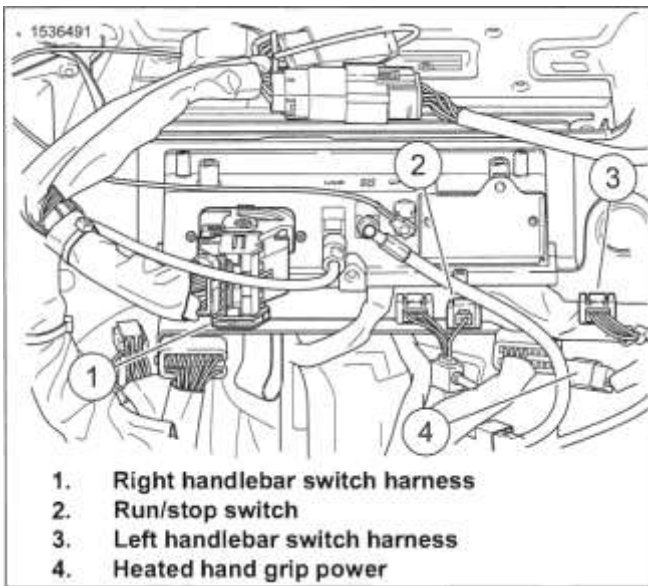

Figure 3-139. Handlebar Harness Connectors
3. See Figure 3-139. Disconnect and remove terminals from heated hand grip power connector (4).